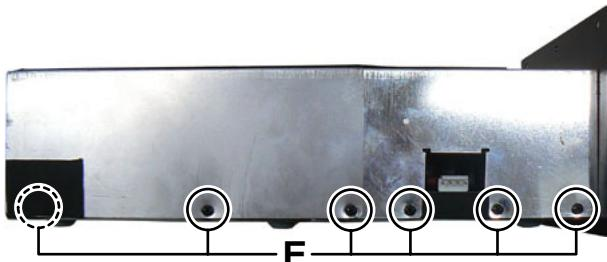

Fig.6
(3) Remove the six screws **E** attaching the Cover. (See Fig.6)